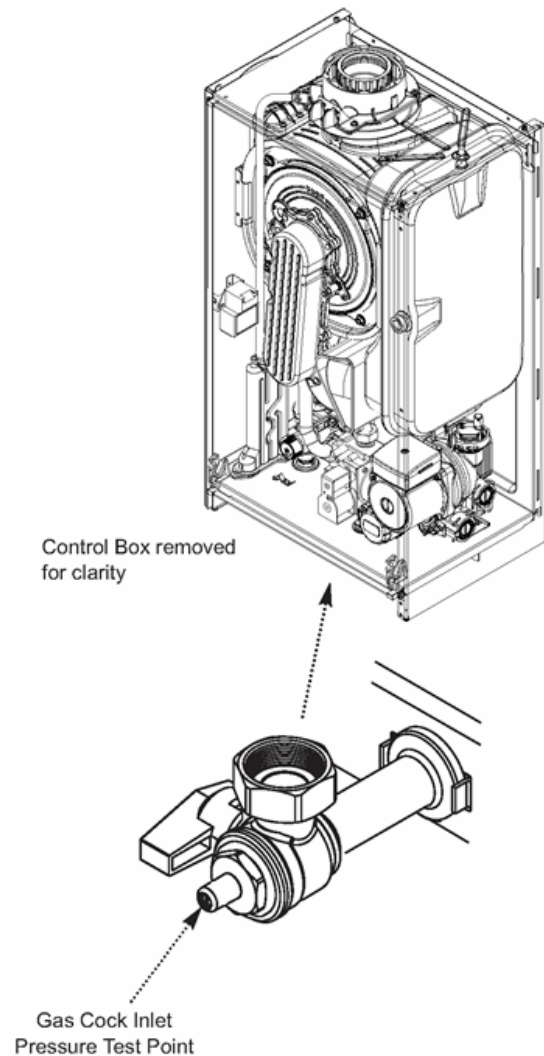

Fig. 41
4. Ensure that this inlet pressure can be obtained with all other gas appliances in the property working. The pressure should be measured at the test point on the gas cock (Fig. 41).